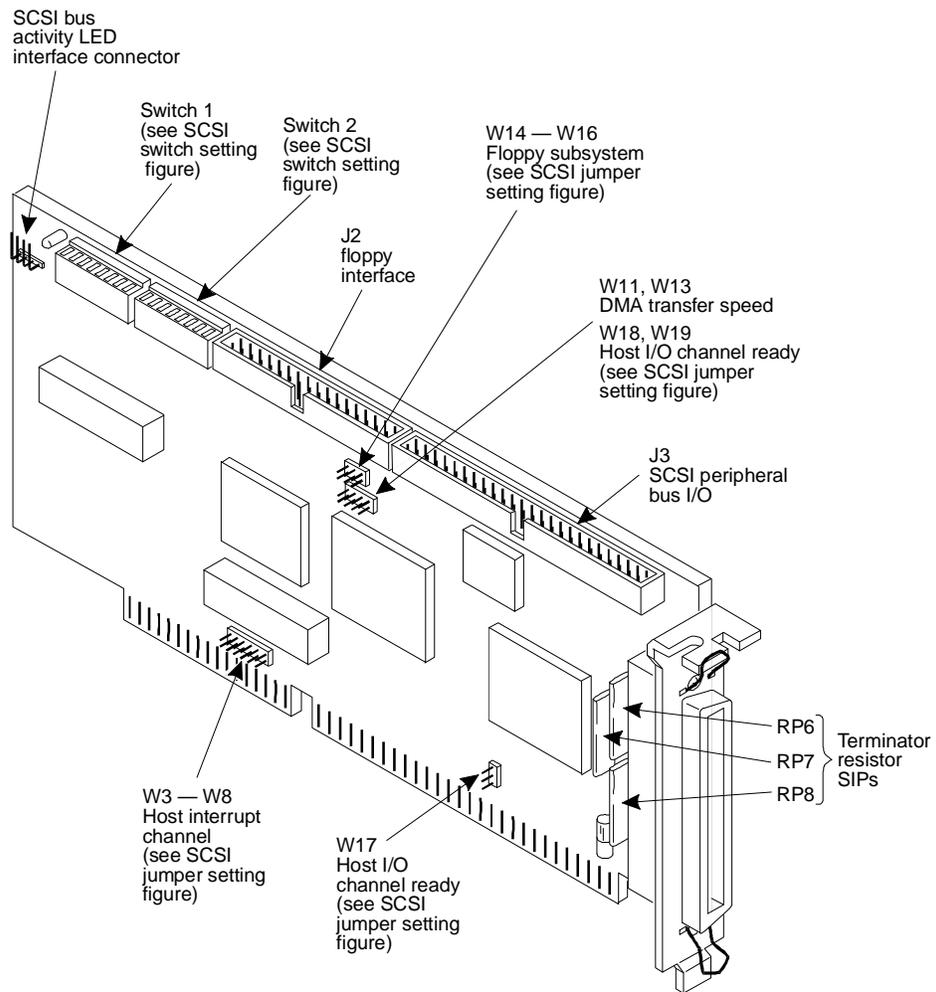
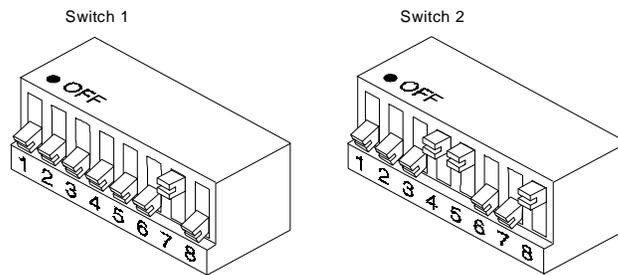
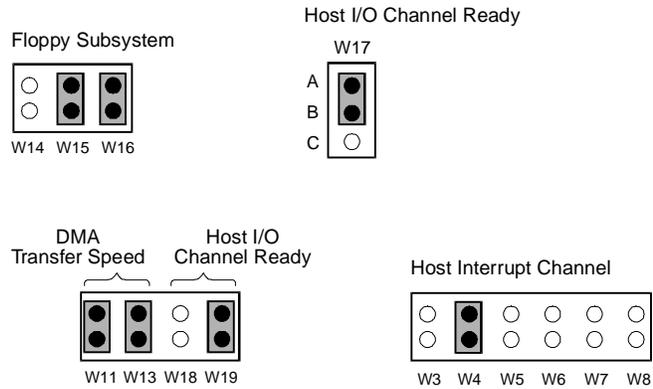

Figure 9-9. SCSI Host Adapter Controller Card
Figure 9-10. SCSI Controller Card Switch Settings
Figure 9-11. Jumper Settings for the SCSI Host Adapter Controller Circuit Card
The SCSI Host Adapter Controller circuit card (Figure 9-9) controls the hard drives, the floppy disk drive, and the cartridge tape drive, as well as the SCSI Bus LED front chassis panel indicators for these drives.
Figure 9-9 shows the location of the switches on the SCSI Host Adapter Controller circuit card. Figure 9-10 shows the switch settings. Table 9-2 and Table 9-3 provide a summary of the switch settings (the recommended settings are shown in bold type).
Figure 9-9 shows the locations of the jumpers on the SCSI Host Adapter Controller circuit card. Figure 9-11 shows the correct settings for these jumpers. Table 9-4 provides a summary of the jumper settings (the recommended settings are shown in bold).
1. Orient the card as shown Figure 9-9.
2. Ensure that the three terminating resistor SIPS are installed on the card (these are labeled as RP6, RP7, and RP8 in Figure 9-9).
4. Locate the jumpers on the card (these are labeled in Figure 9-9). Verify that they are set as shown in Figure 9-11.